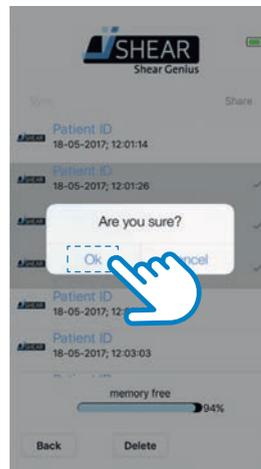

Figure 34a - Tap OK
7. Tap 'OK' in the pop-up screen to permanently delete the Log(s) from you device (phone/tablet) and from the iShear and the iShear app(see Figure 34a).